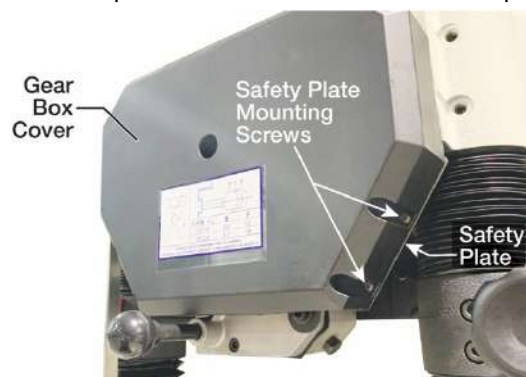
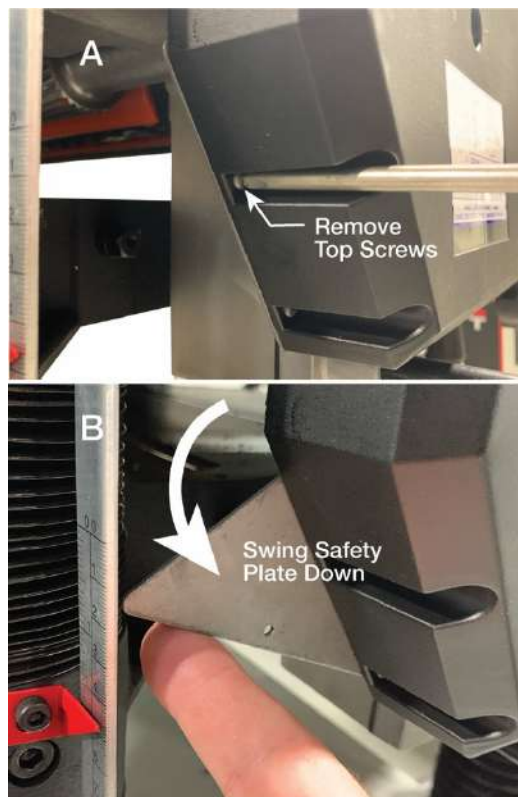

Figure 25
Figure 26
3. There are two safety plates attached to the rear of the gearbox cover. These plates are on each side of the gearbox cover and can't be seen when the cover is installed. The safety plates are held in place by mounting screws which are accessed from the front of the gearbox cover (see Figure 25). Remove the top mounting screws on each safety plate (see Figure 26). Reach behind the gearbox cover and swing both safety plates down (see Figure 26). You may need to slightly loosen the lower mounting screws to allow the safety plates to pivot. Also, when pivoting the right-side safety plate, it may contact the table locking knob. This problem will be taken care of in step 4.